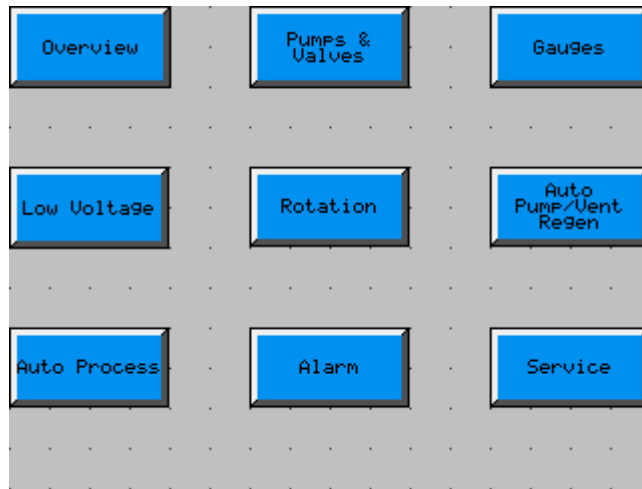
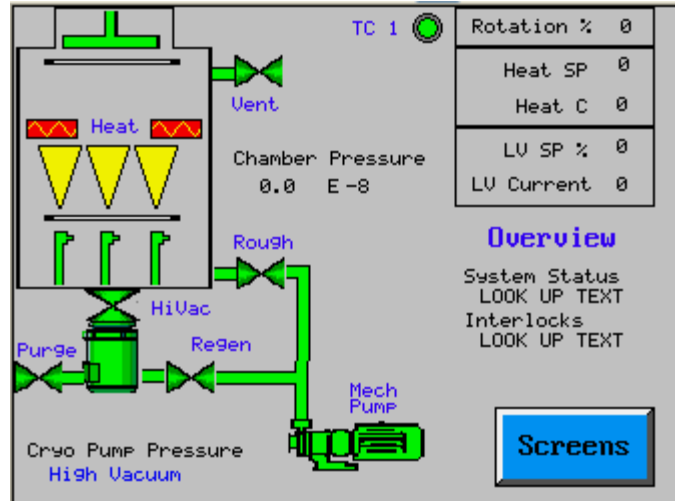
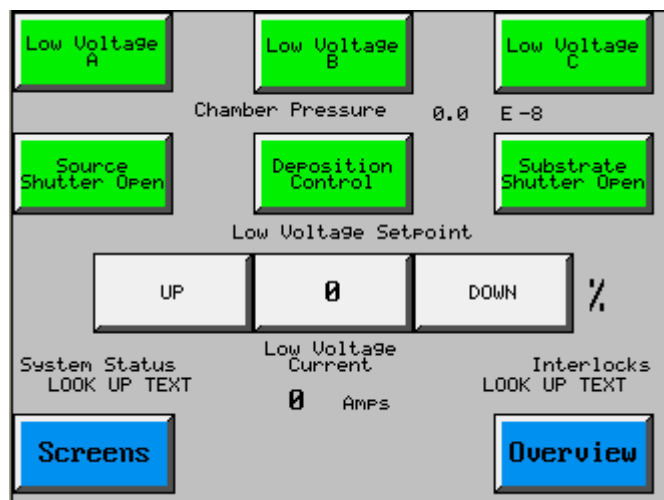

Figure 3: This screen provides access to all other screens.
Figure 10: The Overview Screen.
Figure 11: Low Voltage screen for evaporation.
- b) Select the Auto pump/vent/regen screen by touching that button as shown in Figure 3.
- d) You can observe the pump down mechanism if you like. Select OVERVIEW button from the main screen (Figure 3) or from lower right-hand corner of any screen. It is shown in Figure 10.
- b) Select the Low Voltage screen as shown in Figure 11 from the main screen shown in Figure 3.